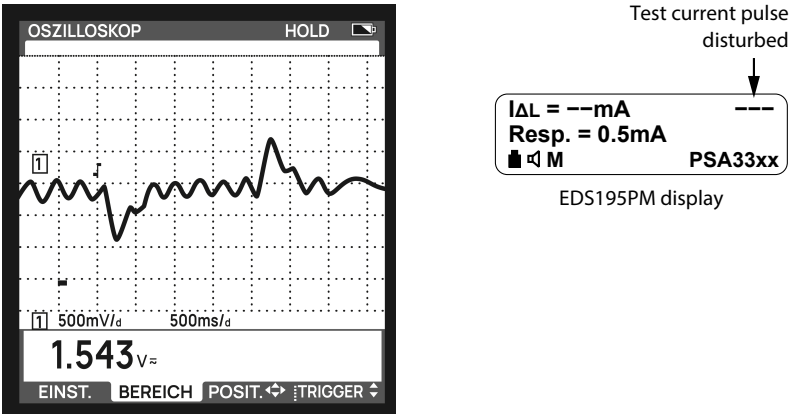

Figure 6-7: Oscilloscope signal with disturbance in the system
- *Experience has shown that the signal in a system with a disturbance is similar to that shown in Fig. 6-7: Oscilloscope signal with disturbance in the system, and often the disturbance can be visually detected with an oscilloscope.*